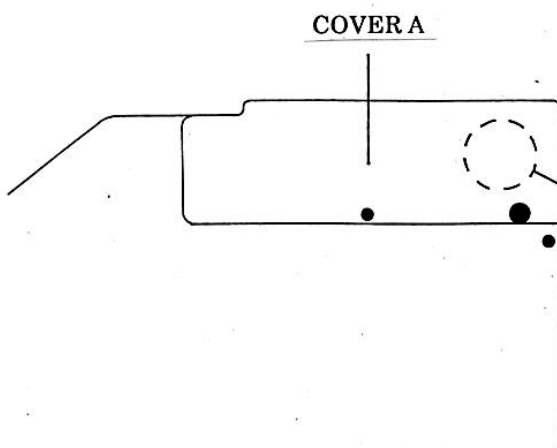

FIGURE 14
- 4 - Remove the cover (Fig 14 - item A)